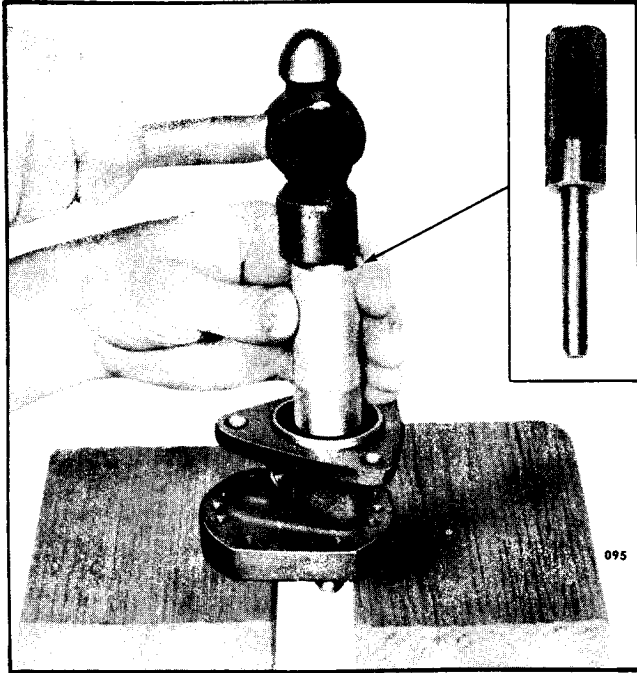

Fig. 7 - Installing Inner Oil Seal using Tool J 1508-8
- b. With the pump body supported on wood blocks (Fig. 7), insert the pilot of the installer handle in the pump body so the seal starts straight into the pump flange. Then drive the seal in until it bottoms.